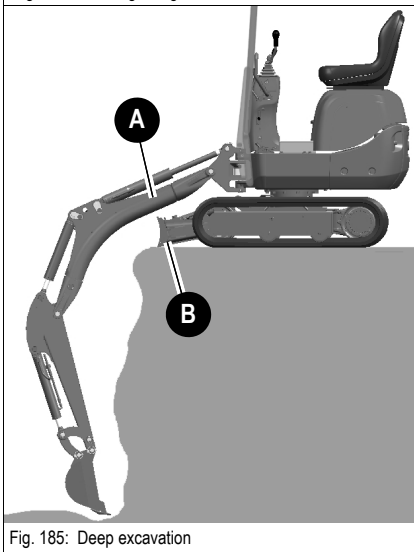

Fig. 185: Deep excavation
- If you perform deep excavations with stabilizer blade **B** at the front, ensure that boom **A** does not touch or rest on stabilizer blade **B** (Fig. 185)